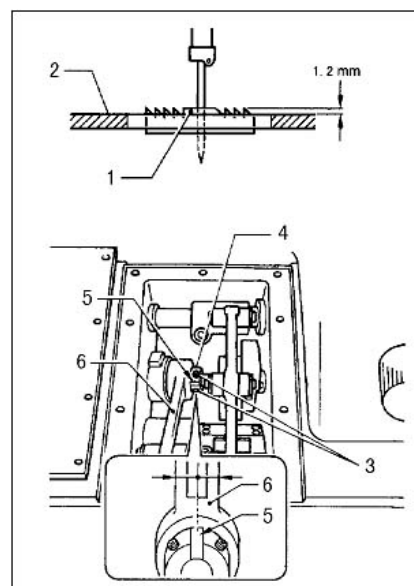

Fig.29
(2) Vertical feed direction(showed by Fig.29)